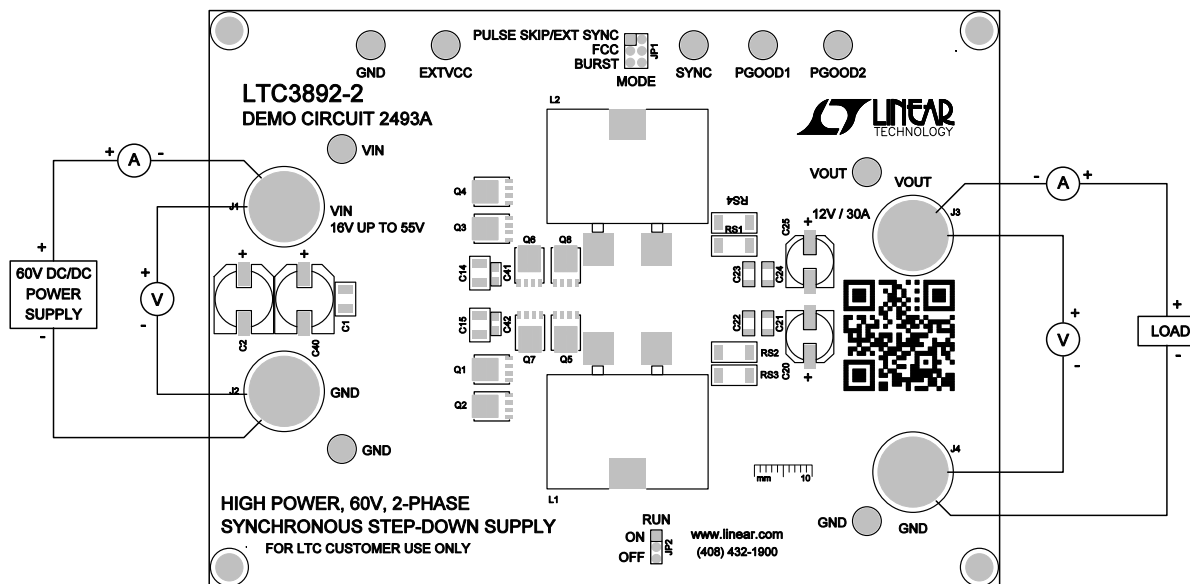

Figure 1. Proper Measurement Equipment Setup
Demonstration circuit 2493A is easy to set up to evaluate the performance of the LTC3892-2. For proper measurement equipment configuration, set up the circuit according to the diagram in Figure 1. Before proceeding to test, insert shunt JP2 (RUN) into OFF position, which connects the RUN pin to ground (GND), and thus, shut-down the circuit.
1. With the DC2394 set up according to the proper measurement and equipment in Figure 1, apply 20V at V_{IN} . Measure V_{OUT} ; it should read 0V. If desired, one can measure the shutdown supply current at this point. The supply current will be approximately $5\mu A$, or less, in shutdown.